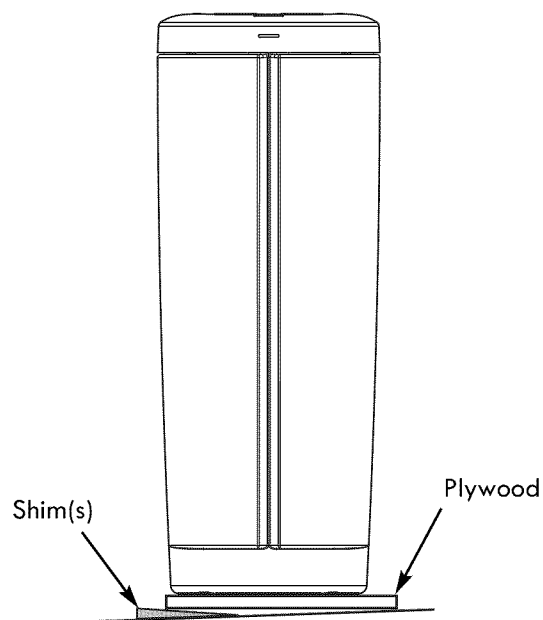

Figure 4
1. Move the Central Water Whole Home Filtration System into installation position. Set it on a level surface. If needed, place the unit on a section of plywood, a minimum of 5/8" thick. Then place shims under the plywood to level the Central Water Filtration System (see Figure 4).